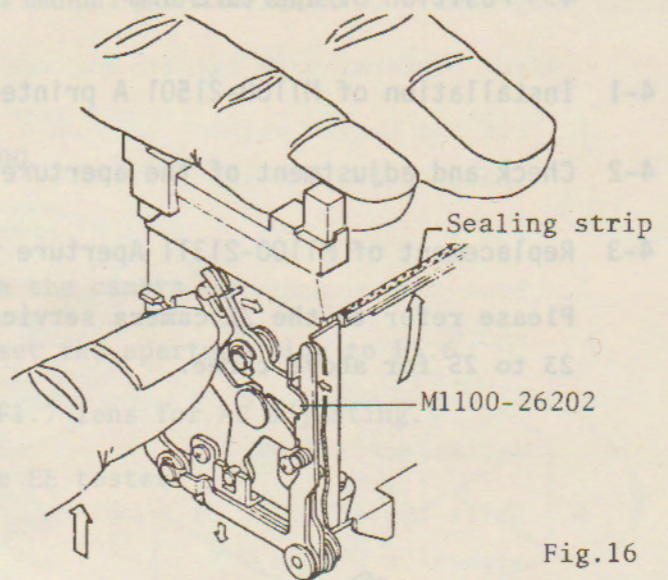

Fig.16
5. When raising up the mirror slowly, the M1100-26202 latch should unlatch a little before the mirror touches to the sealing strip. (Fig. 16)